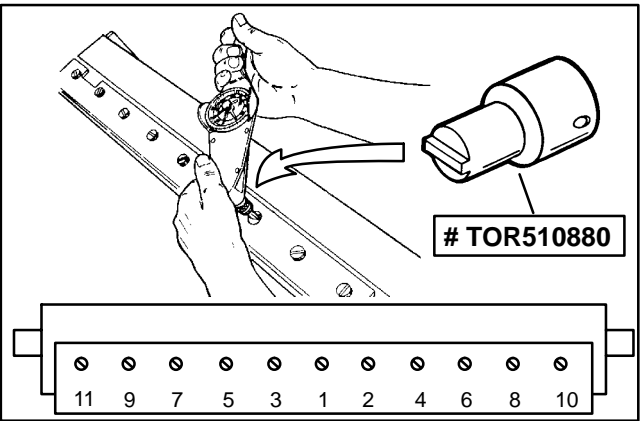

Figure 18
3. Install all screws but do not tighten fully. Then, using a torque wrench and bedknife screw tool, torque screws from **200 to 250 in-lb (22.6 to 28.2 N-m)**. Use a torquing pattern working from the center toward each end of the bedknife (Fig. 18).